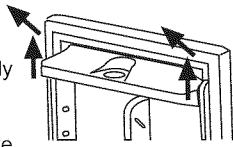

Figure 1.
1. Hold water storage bin with both hands by its sides firmly and Lift up the front of the bin then pull up to remove completely from the inner door (see figure 1).